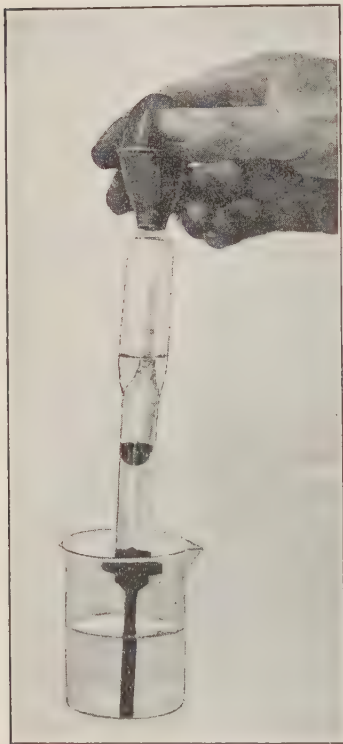

FIGURE 88.—A BATTERY TESTER.
58. **Practical Uses of Hydrometers.**—The bottle method, or a slight modification of it, is a very accurate way of determining the specific gravity of liquids. For practical purposes, however, the more rapid, but less accurate, hydrometer method is generally used. This instrument is important in the manufacture of acids, in the separation of the various oils obtained in the distillation of crude petroleum, and in many other industries. It finds frequent employment in the testing of the sulphuric acid solutions used in the lead storage batteries of automobiles (Figure 88). Since specific gravity is often an indication of purity, the hydrometer is a quick means of testing olive oil and many other oils. Milk inspectors use a special form, known as